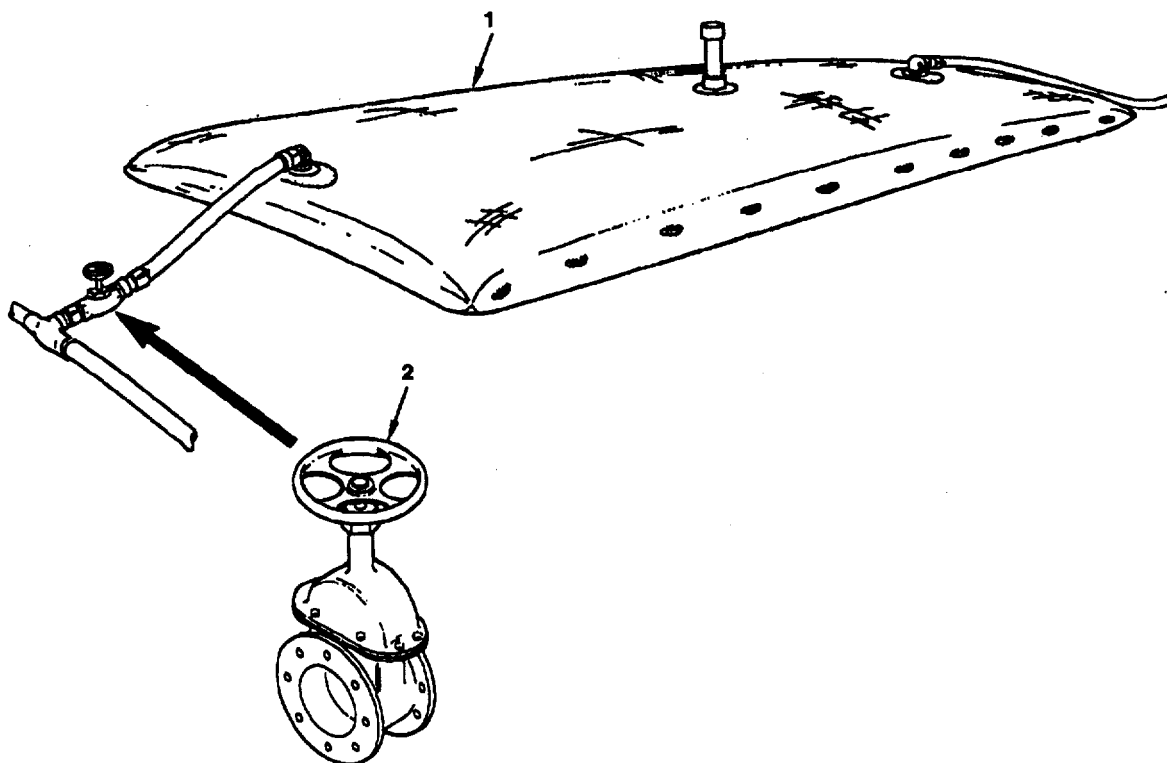

Figure 2-4. Operator's Controls and Indicators for TWDS Storage Assembly.
2.1.4 **TWDS Storage Assembly.** See figure 2-4 and table 2-4.